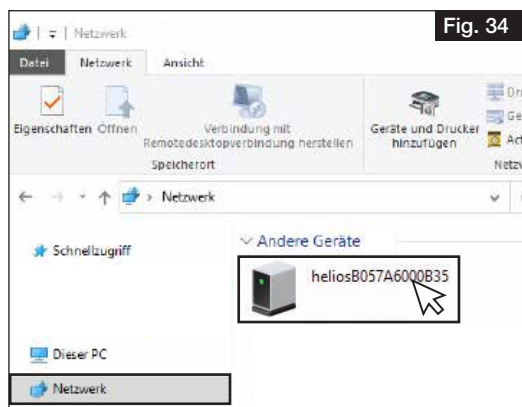

Fig. 34
2. Open desktop and click on Network, cf. Fig. 34.
- ① **Network discovery must be activated!**
3. Double-click on the corresponding unit, cf. Fig. 34.